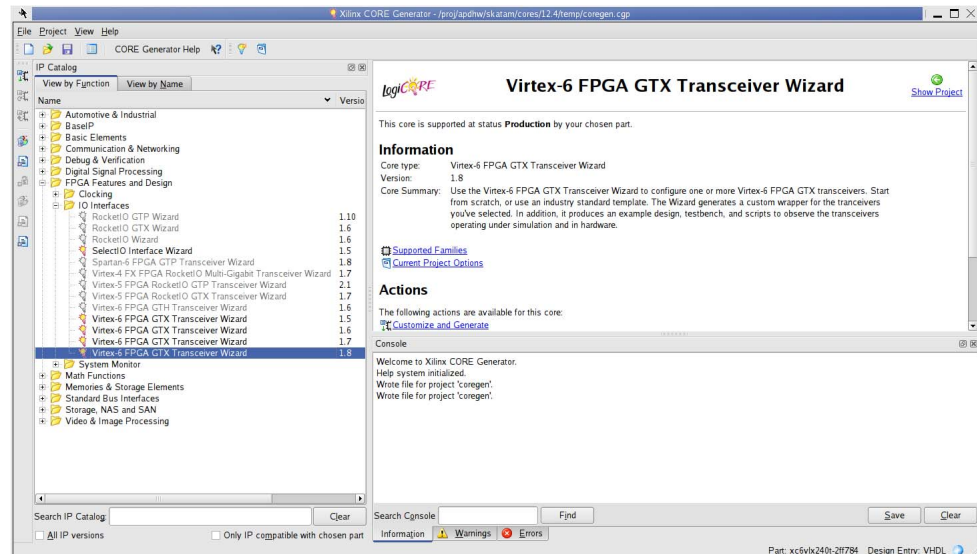

Figure 3-6: Locating the GTX Transceiver Wizard
1. Locate Virtex-6 FPGA GTX Transceiver Wizard 1.9 in the taxonomy tree under: /FPGA Features & Design/IO Interfaces. (See Figure 3-6)